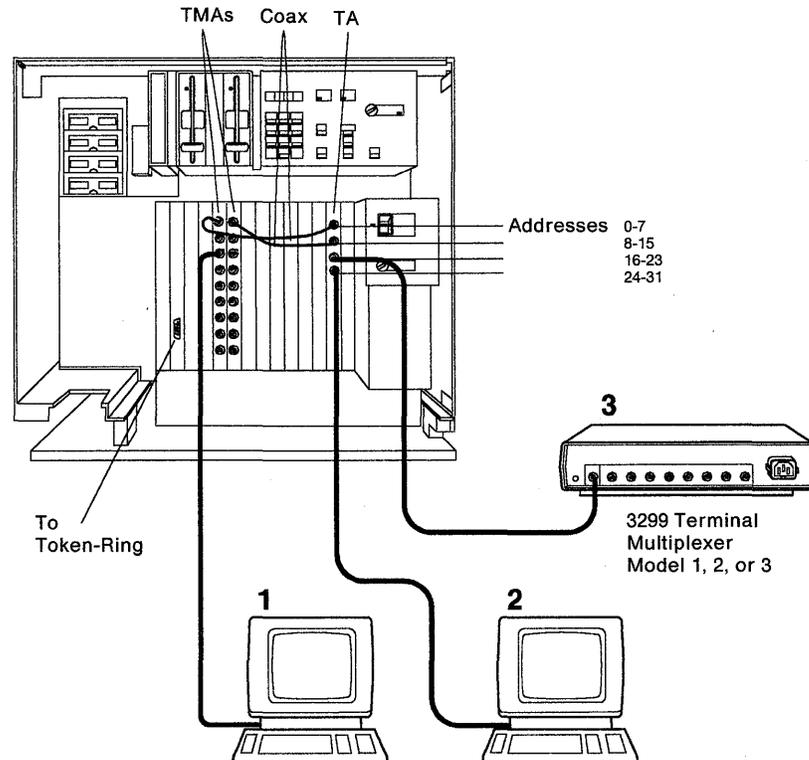

Figure H-1. 3174 Cabling
- 3 Familiarize yourself with the four different ways to connect terminals to the 3174. See Figure H-1 for an example.